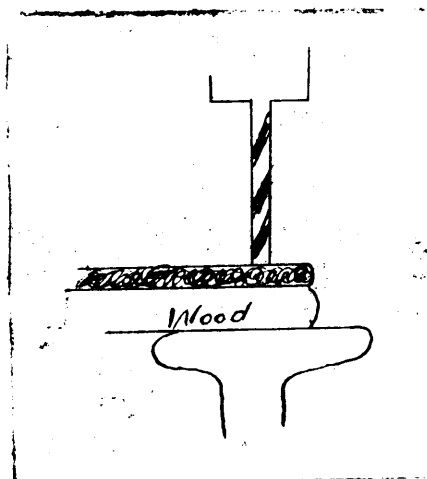

Figure 6.
3. Always place stock on a wooden block, Figure 6. Unless table has a hole in it. Wood is used to prevent drilling hole in table.